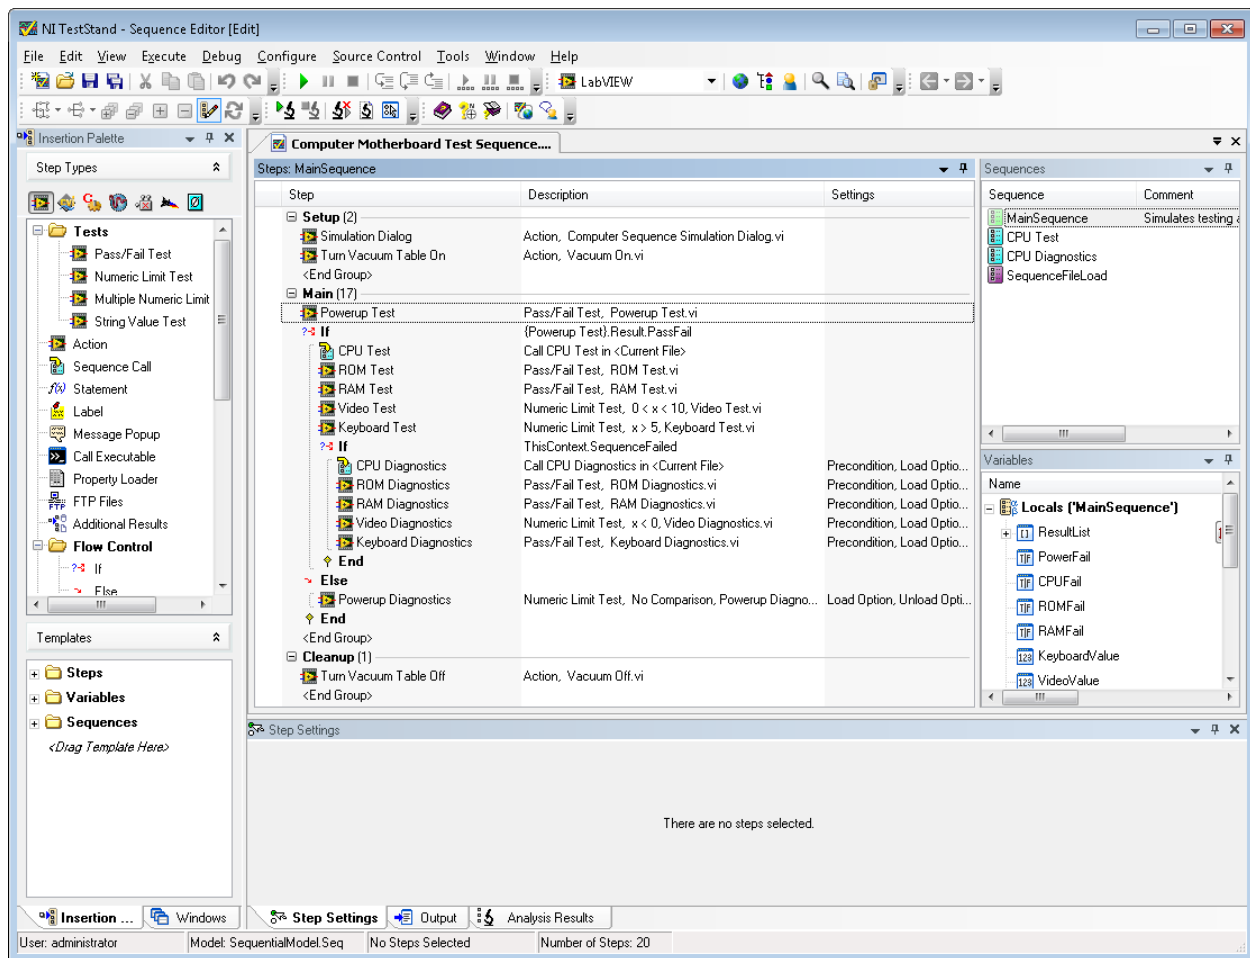

Figure 2. Sequence File in the Sequence Editor
- Open the Computer Motherboard Test Sequence.seq file. Figure 2 shows the TestStand window that opens.